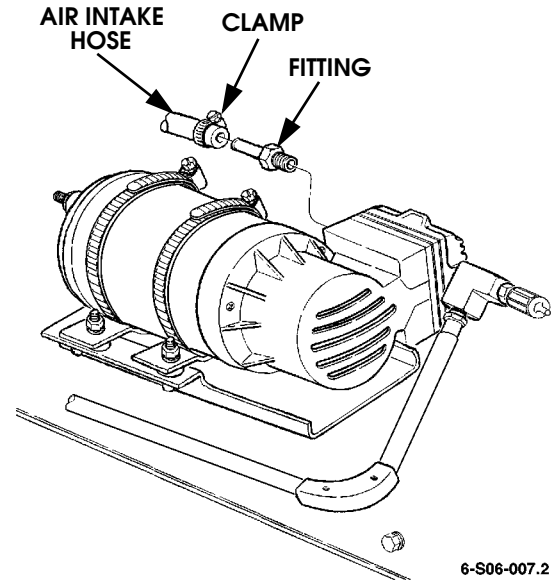

Figure 6-78: Air Intake Hose to Fitting
5. Loosen hose clamp securing air intake hose to hose end (Figure 6-78).
1. Connect air intake hose to hose end and secure with hose clamp (Figure 6-78).
5. Secure air intake hose to hoses with tiedown straps (Figure 6-78).